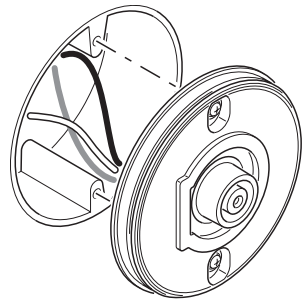

Figure 5
1. Place the mounting plate against the junction box and tighten the two mounting screws securely to the junction box (see Figure 5). If necessary, use the screws that were removed from the existing light fixture. Do not overtighten.